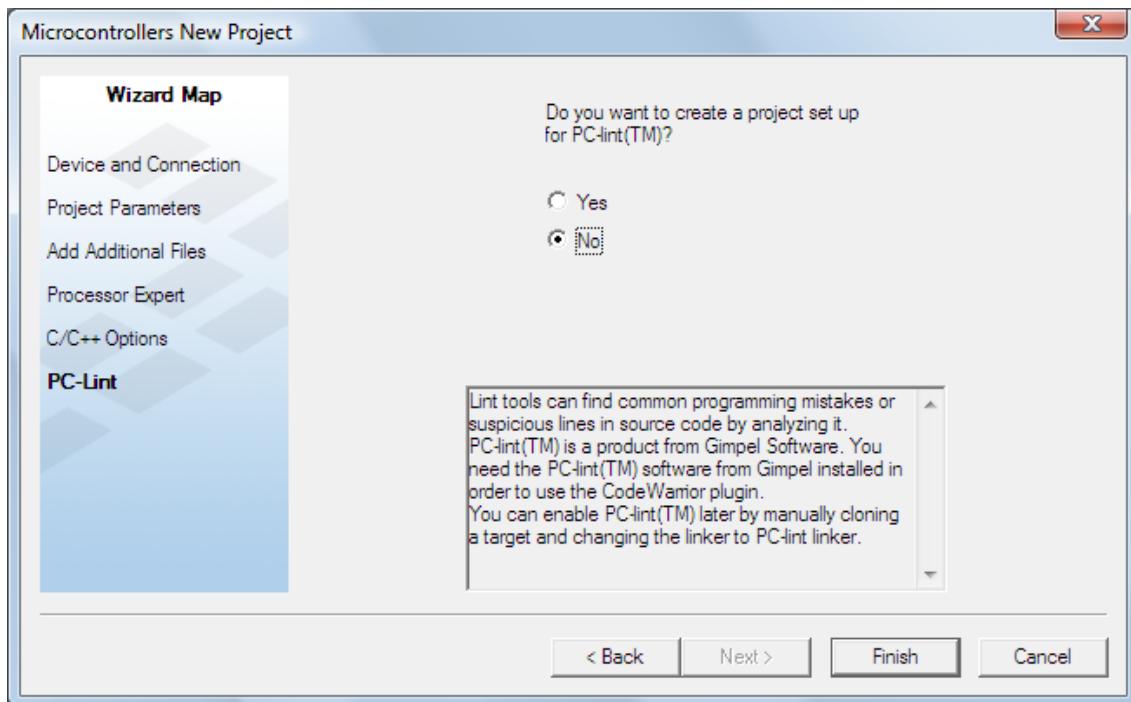

Figure 35: Don't use PC-lint™ for this project
7) Don't enable the use of the PC-lint™ source code checker (Figure 35):